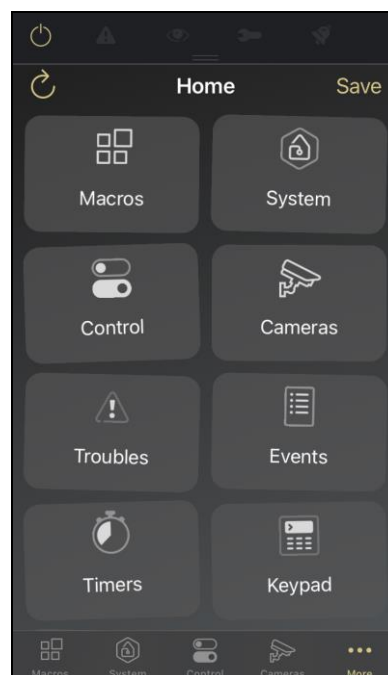

Fig. 11. INTEGRA CONTROL application. The list of available widgets. Editing the shortcut bar.
Click “More” to view the widgets (Fig. 11):
2. Tap “Edit”. The list of available widgets will change its layout (Fig. 11).